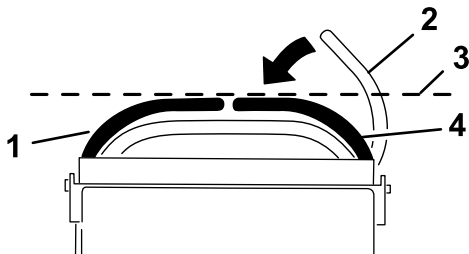

Figure 59
4. Check the horizontal alignment of the motion-control levers (Figure 59).